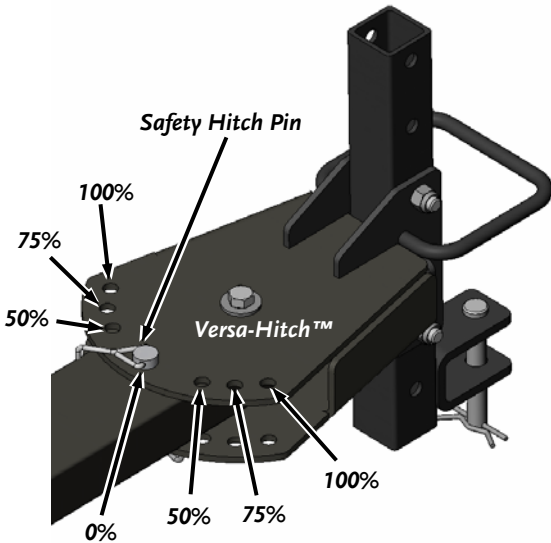

Figure 16
1. Remove the Safety Hitch Pin (**Figure 16**) from the Versa-Hitch™ and pull the Out-Rigger™ Tow Bar to the position that matches the Tow Bar position on the Deck. Re-attach the Safety Hitch Pin.